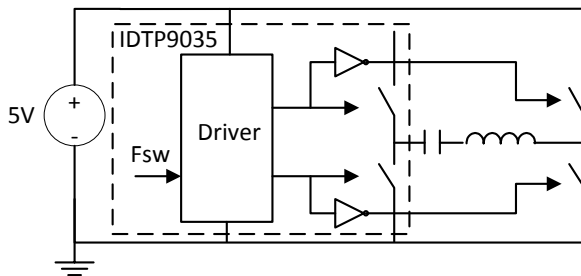
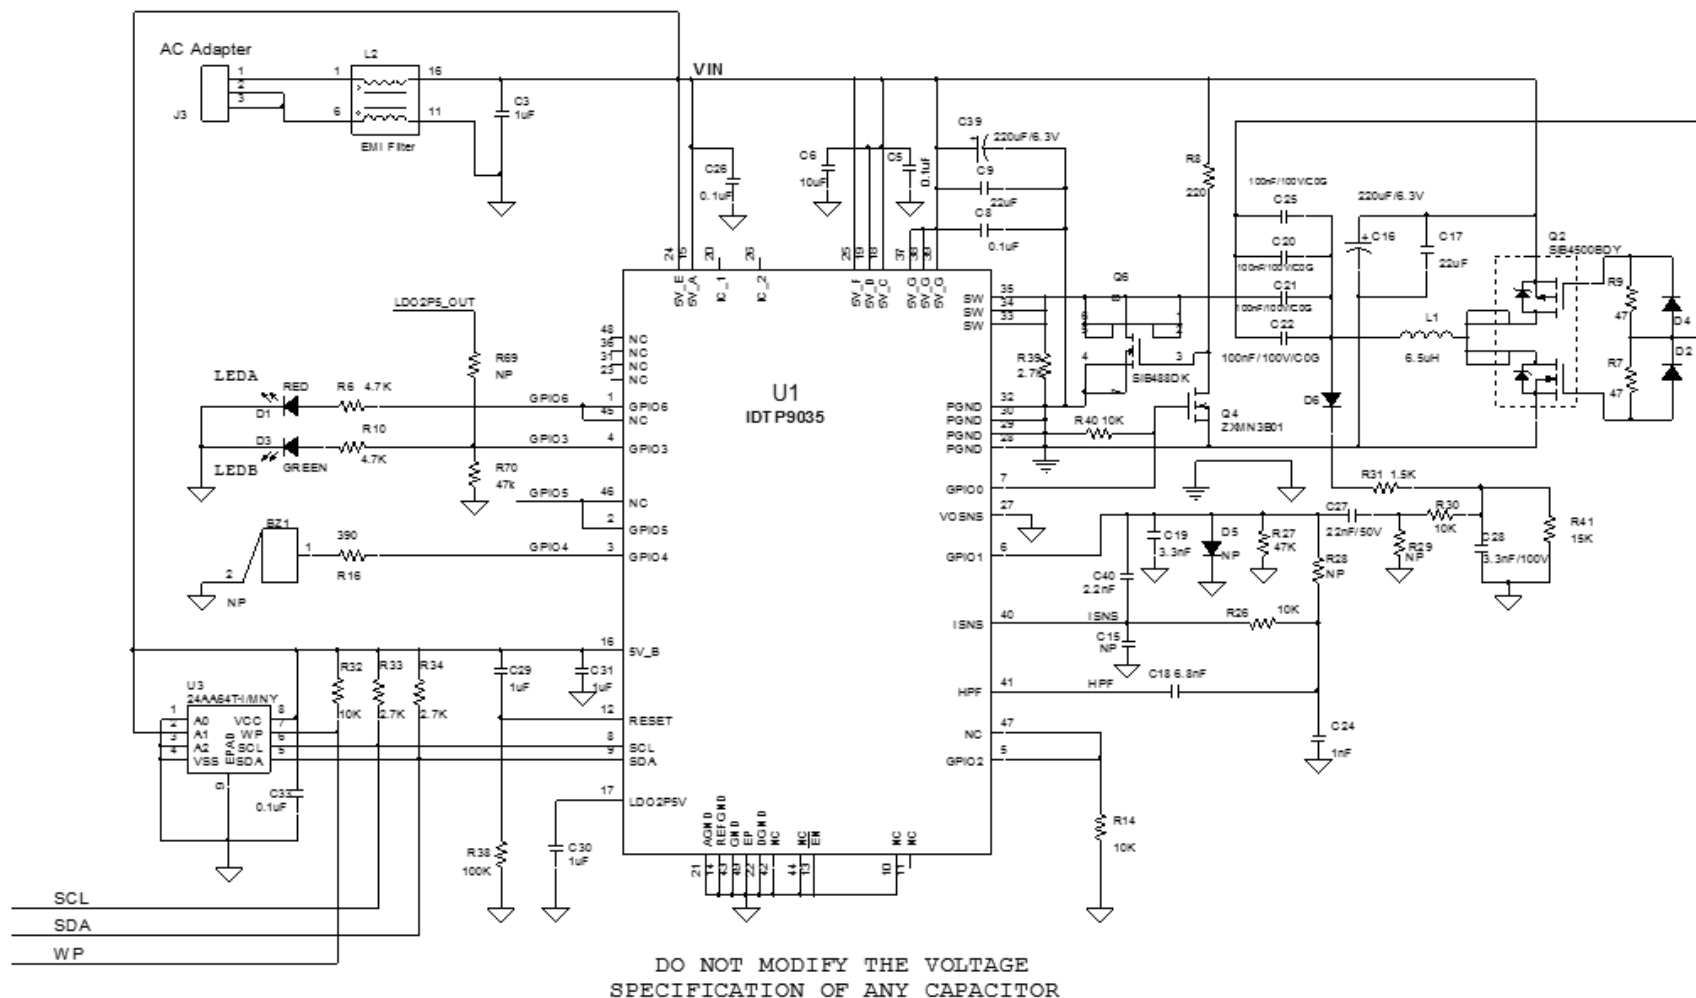

Figure 7. Full-Bridge inverter TX Coil Driver.
Figure 9. IDTP9035 WPC “Qi” Compliance Schematic (See IDTP9035 Evaluation Kit User Manual for complete details)
The Driver Control block contains the logic, shoot-through protection, and gate drivers for the on-chip power FETs and external FETs. The on-chip and external FETs are configured as a full-bridge power inverter, effectively doubling the peak-to-peak voltage applied to the coil. The frequency of the full-bridge output waveform is set by the MCU. (For details, please refer to the simplified application diagram (Figure 1) and the reference design schematic (Figure 9)).
The recommended applications schematic diagram is shown in Figure 9. The IDTP9035 operates with a $5V_{DC}$ ($\pm 0.25V$) input. The switching frequency varies from 110kHz to 205kHz. At the 205kHz limit the duty cycle is also changed to adjust the power transfer level. The power transfer is controlled via changes in the switching frequency and duty cycle. The base or TX-side has a series resonance circuit made of a WPC Type-A5 or A11 coil ($\sim 6.3\mu H$) and a series resonant capacitor ($\sim 400nF$) driven by a full-bridge inverter, as shown in Figure 7.
10). A complete design schematic compliant to the WPC “Qi” standard is given in Figure 9. It includes WPC “Qi” LED and buzzer signaling.